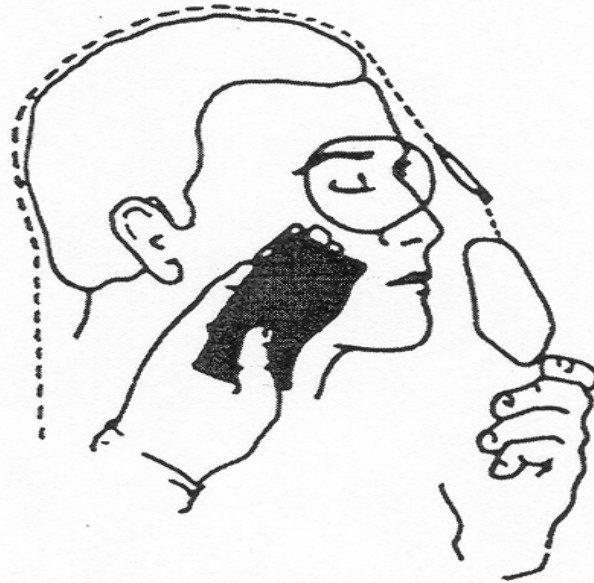

Figure 4-5. Wiping inside of mask.
(3) Scrub up and down across the face beginning where you ended at the mouth. Scrub from the other side of the mouth to the other end of your jawbone.
(4) Scrub up and down across your face beginning where you ended at step 3, chin and other end of jawbone.
(5) Turn your hand out and quickly wipe the inside of the mask that touches your face (see Figure 4-5).